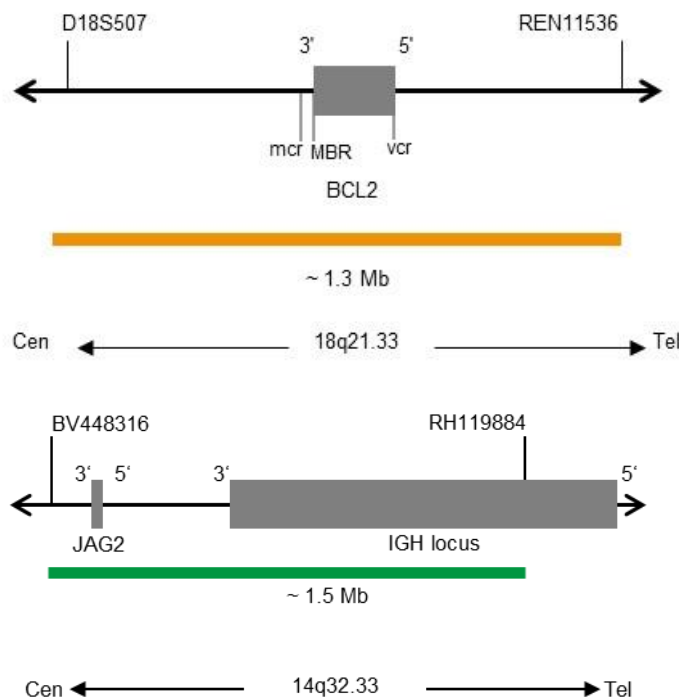

Fig. 1: Top: SPEC BCL2 Probe map; Bottom: SPEC IGH Probe map (not to scale)
- ZyOrange (excitation 547 nm/emission 572 nm) labeled polynucleotides (~6 ng/μl), which target sequences mapping in 18q21.33* (chr18:60,180,078-61,507,691) harboring the BCL2 gene region (see Fig. 1).
- ZyGreen (excitation 503 nm/emission 528 nm) labeled polynucleotides (~12 ng/μl), which target sequences mapping in 14q32.33* (chr14:105,462,169-106,995,000) harboring the IGH locus (see Fig. 1).